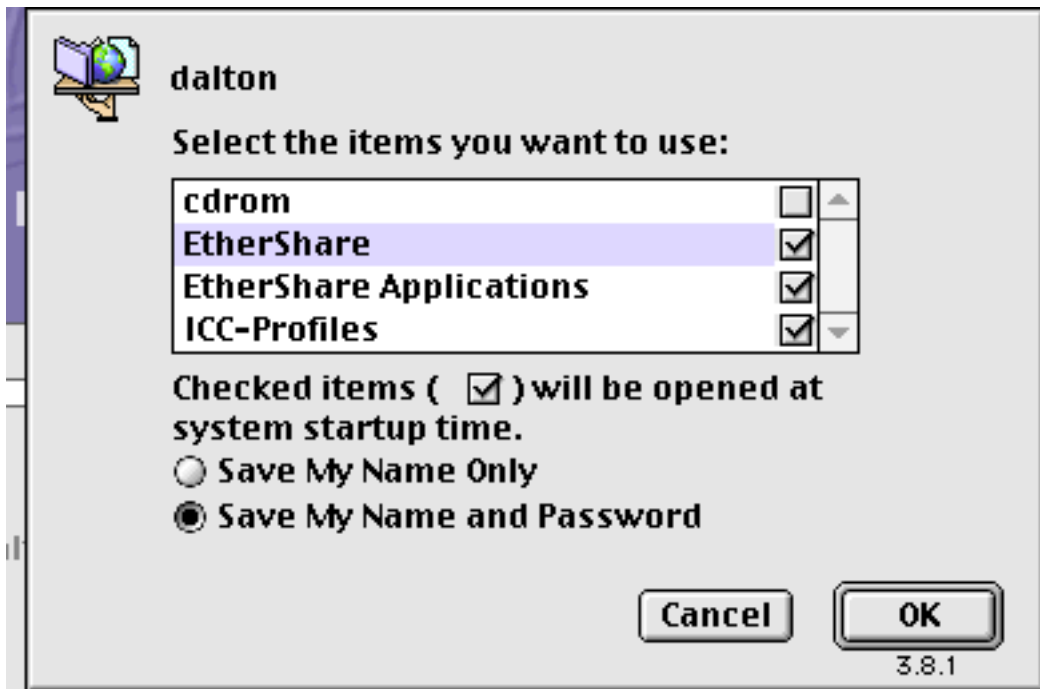

Figure 39. Sample connection dialog
- c. From the **Dalton** dialogue (displayed in Figure 39 on page 151) – where **Dalton** is the name of the Infoprint AIX server – press **OK**.